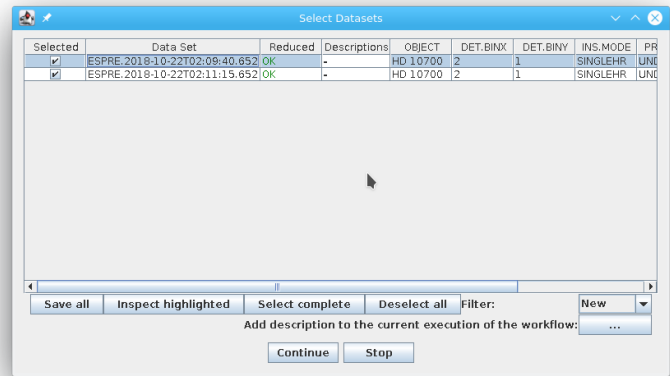

Figure 3.0.3: *The “Select Datasets” pop-up window.*
- The `Data Set Chooser` actor will be highlighted next and will display a “Select Datasets” window (see Figure 3.0.3) that lists the datasets along with the values of a selection of useful header keywords2. The first column consists of a set of tick boxes which allow the user to select the datasets to be processed. By default all complete datasets which have not yet been reduced will be selected. A full description of the options offered by the `Data Set Chooser` will be presented in Section 6.3.2.